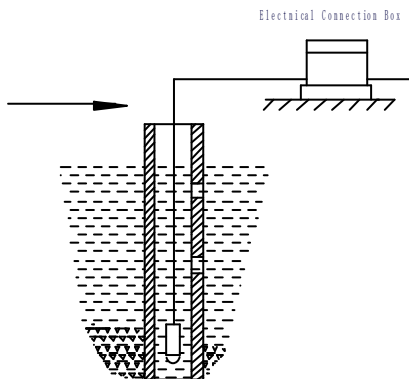

Figure4 Installation in flowing water
- a) See Figure 4., It is recommend to insert a steel pipe and punch several holes on it, so as to avoid water wave or shock on the sensor diaphragm.